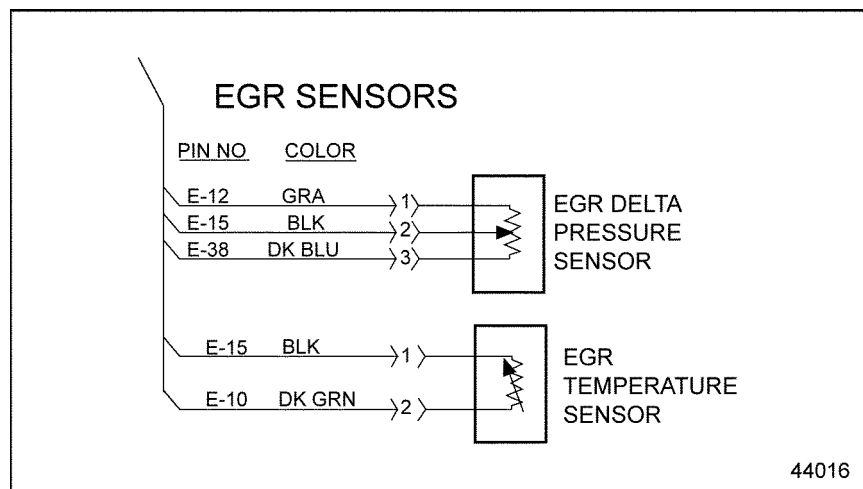

Figure 70-1 EGR Delta-Pressure Sensor Wiring
2. Install a jumper wire between cavities E-15 and E-38 at the engine sensor connector. See Figure 70-1.
3. Measure resistance between cavity 2 and 3. See Figure 70-1.
2. Measure resistance between E-12 and E-38. See Figure 70-1.